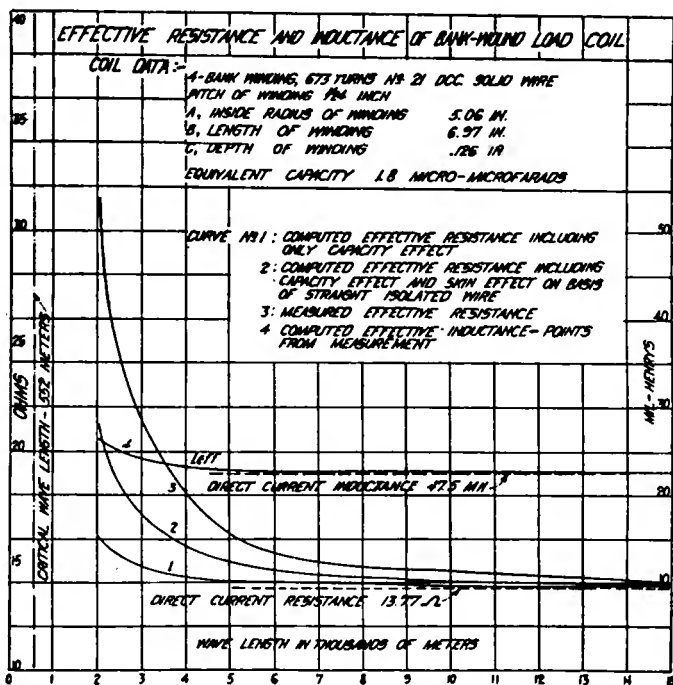

Figure 3—Graphic curves giving the results of calculation and measurement on a sample coil
**EXAMPLE:** Table I and the curves of figure 3 present the results of calculation and measurement on a sample coil. This coil consisted of a four-bank winding of No. 21 D.C.C. solid wire on a threaded bakelite tube 6 inches in diameter. Specific dimensions are given on figure 3.
The single layer coil possesses a decided advantage in that it suffers a smaller resistance increment due to capacity and skin effect. However, for a given inductance, such a coil requires a very much greater length of wire and therefore has a much greater D.C. resistance than a coil of the same inductance wound in either of the other two forms. A glance at the curves of figure 3 will show that for long wavelengths, the D.C. resistance R is decidedly the largest term in the total,  $R + R_c + R_s$ . For wavelengths in excess of 5000 meters, therefore, a bank-wound coil is many times more efficient than a single layer coil. Brook's shape factor data shows, in fact, that a single layer coil may have a D.C. resistance as much as ten times the D.C. resistance of a bank-wound coil of the same inductance. For long waves, some form of multilayer coil approaching the maximum inductance shape is nearly always even more efficient than a bank-wound coil. The reason is, in brief, that the increase in resistance due to the greater capacity and skin effect in the multilayer coil is more than made up for by its smaller direct current resistance, since the latter comprises the major part of the total effective resistance at these frequencies.
For example, in the case of the load coil whose effective resistance is shown on figure 3, it would have been decidedly uneconomical to use litzendraht braid. At the minimum wavelength for which this coil was designed, 5000 meters,  $R + R_c$  is 14.1 ohms and  $R_s$  is 2.1 ohms. Assuming for the moment that the use of an equivalent litz braid would have eliminated the skin effect entirely, the resulting gain in efficiency would have been about 15 per cent. at the same time, the cost of the coil would have been increased about 225 per cent. This increase in cost